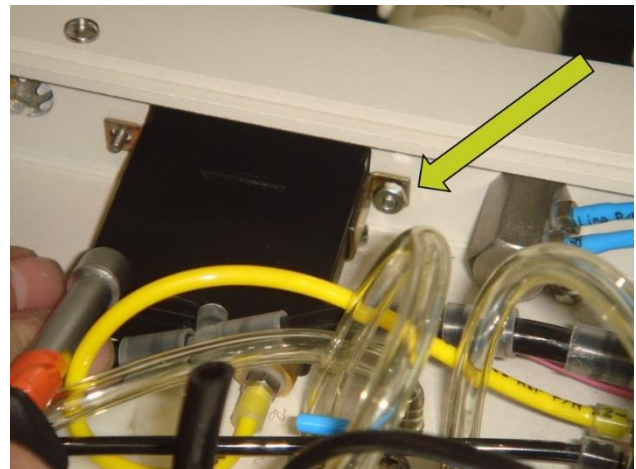

Fig. 3
6. There are nuts on both sides of the pressure gauge. Locate the nuts and remove them using a 1/4" nut driver. (Fig. 3)